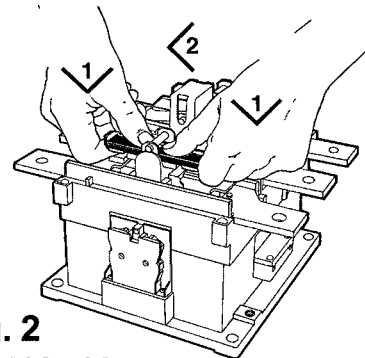

Fig. 2
- 3TK12, 13 (Fig.2) Sollevare tirando i contatti mobili.
See Fig. 2. Remove the contacts.
- 3TK12, 13 (Fig.2) Extraiga los contactos móviles.
- Change coil according to Fig. 2.